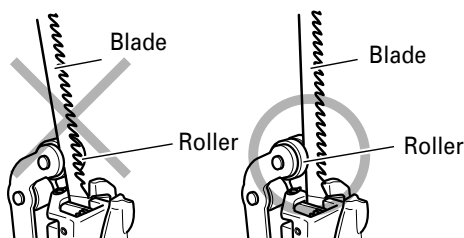

Fig. 8
- Confirm the blade located between the groove of roller. (Fig. 8)